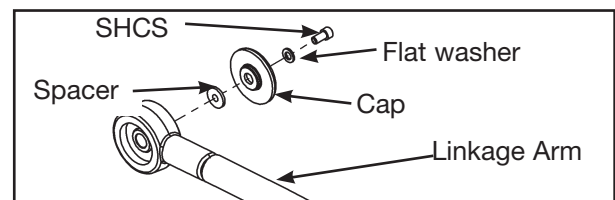

Figure 3
- A.** Using a 3/16" Allen wrench, remove the SHCS and spacer securing the linkage arm. See figure 3. **NOTE:** Figure 3 shows the contents of the linkage cap kit that will be installed in step 23A.